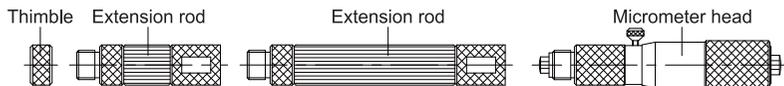

Fig.1
---According to the measured workpiece to select extension rod, the number of extension rod is less to reduce cumulative error. The longest one connects to sleeve, the next is in turn by the length, the shortest is the last one. Install extension rod, first take down thimble, extension rod connects to sleeve, use spanner to tighten it, screw on thimble (Fig.1).